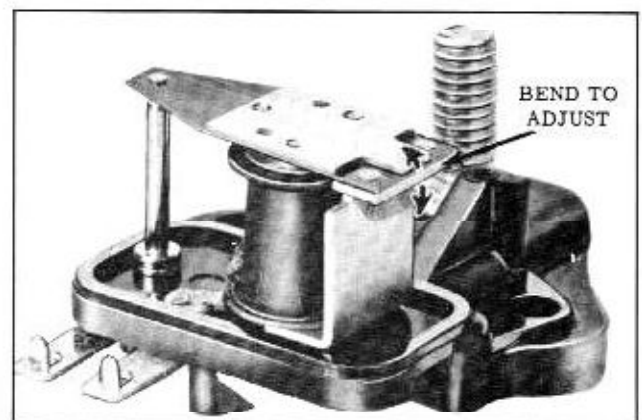

Fig. 13-106 Adjusting Relay
1.5 to 2.5 volts. If voltage is outside this range, adjust to 6.5 volts by bending armature spring post down to increase the voltage or up to decrease the voltage. (Fig. 13-106)